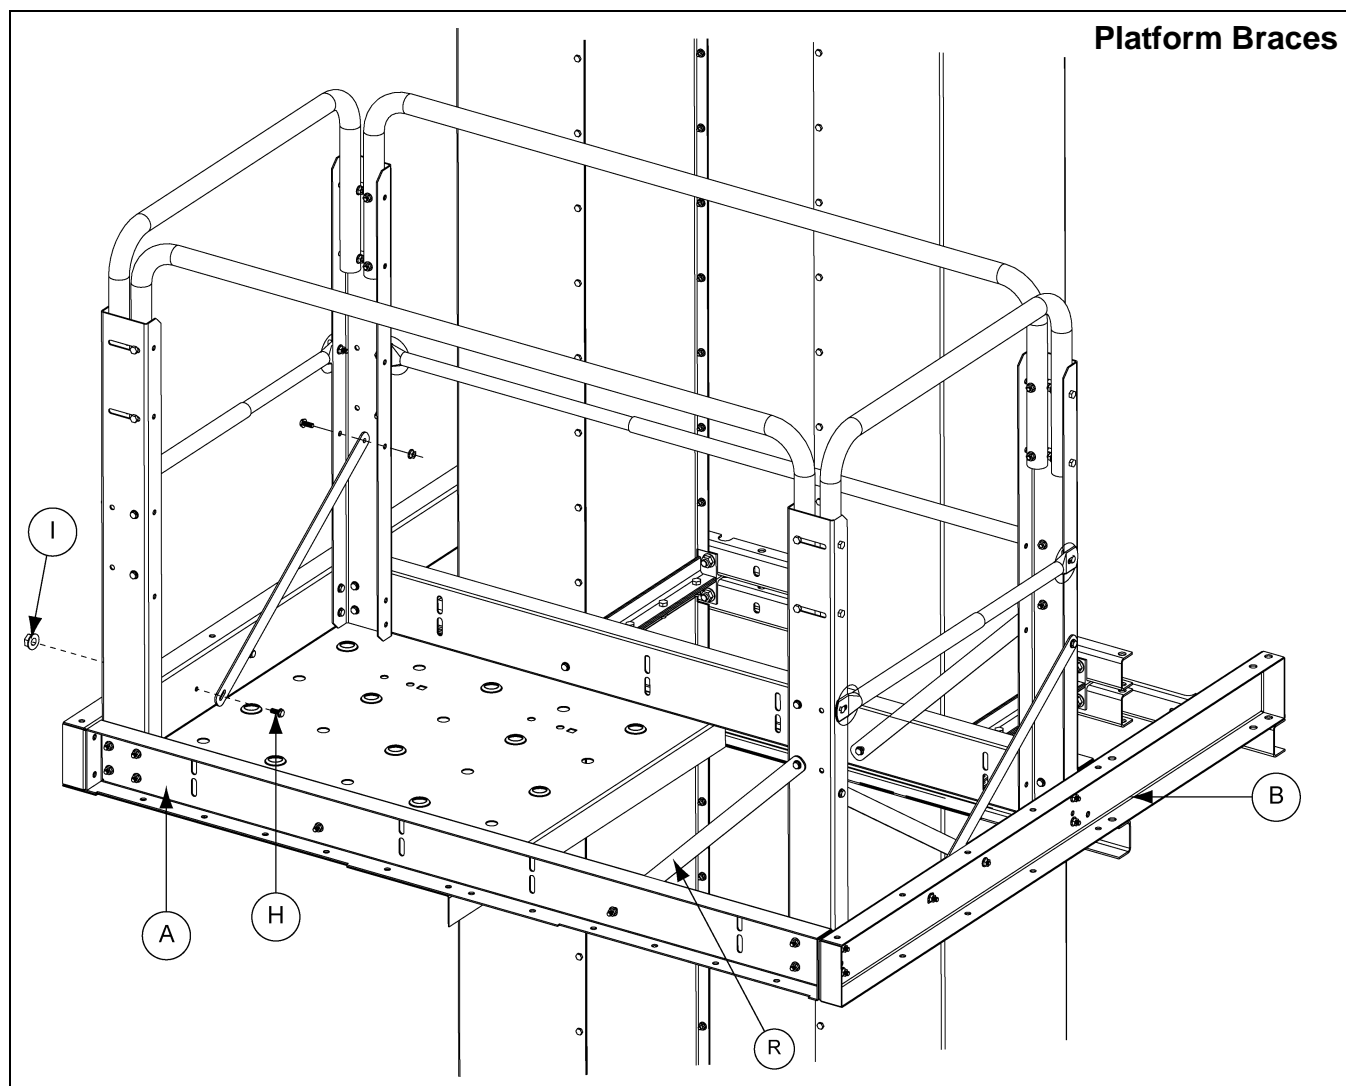

Figure 7M
8. Platform braces must be installed from handrail posts to mounting and cross channels using 5/16" x 3/4" flanged hex bolts. Braces should be attached to the outside of the platform post and to the inside of the mounting and cross channels. **NOTE:** Safety cage bars (LDR-517BE) are used as platform braces/tie angle braces through out this installation. Bolt heads should be on inside of platforms. (See Figure 7M.)